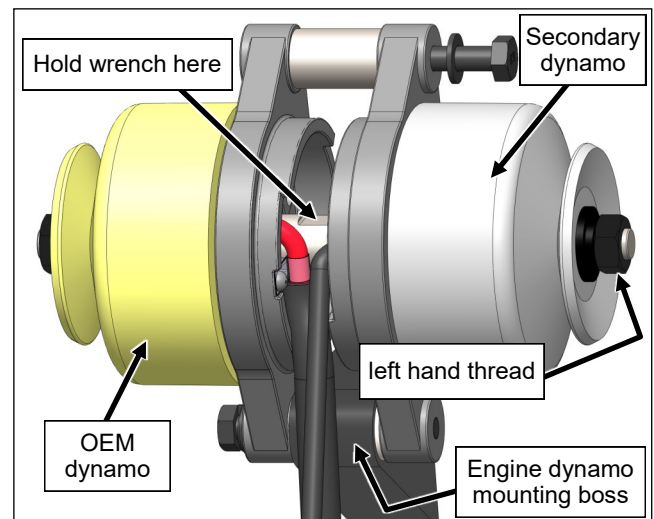

Fig. 2.7 (Torque Secondary Dynamo Nut)
- 2.7 See fig. 2.7. Tighten the left-hand threaded hex nut on the Curtis Dynamo. Ensure that the flat washer is centered on the shoulder of the shaft when tightening. Use a 5/8" open-end wrench on the center of the shaft where the flats are provided. Torque this left-hand threaded hex nut to 28.9 - 32.5 ft.-lbs. (39.2 - 44.1 Nm).